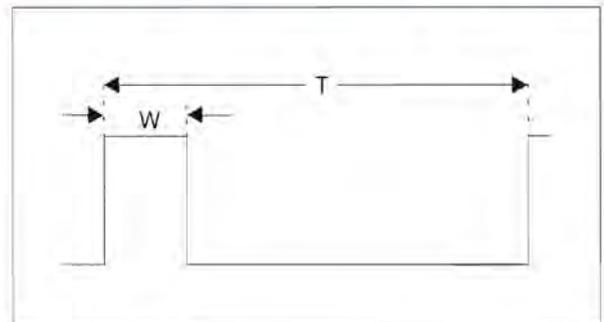
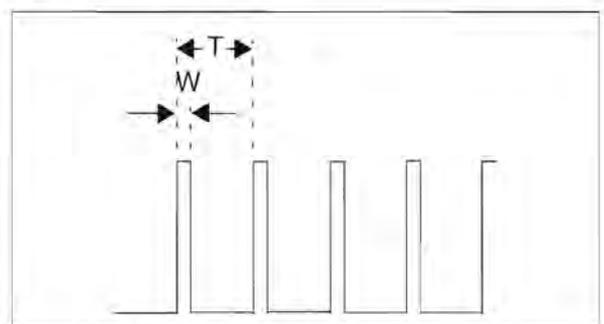

Figure 3: Low RPM
Figure 4: High RPM
In **Figure 3** and **Figure 4**, the waveform is high when light is passing through a slot in the encoder wheel and shining on the optical sensor. In the case of a Hall Effect sensor, the high corresponds to the time that the magnet is in front of the sensor. These figures show the difference in the waveforms for varying RPMs. Notice that as RPM increases, the period (T) and pulse-width (W) become smaller. Both period and pulse-width are proportional to RPM. However, since the period is the greater of the two intervals, it is good practice to measure the period so that the RPM reading from the sensor will have the best resolution. See **TIP 1** in the "Tips 'n' Tricks – PICmicro Microcontroller CCP and ECCP" booklet (DS41214) for measuring period. In addition, see **Tip 2** (also shown in the DS41214 booklet), which features a technique for measuring period with averaging, but is also useful for measuring high RPMs.